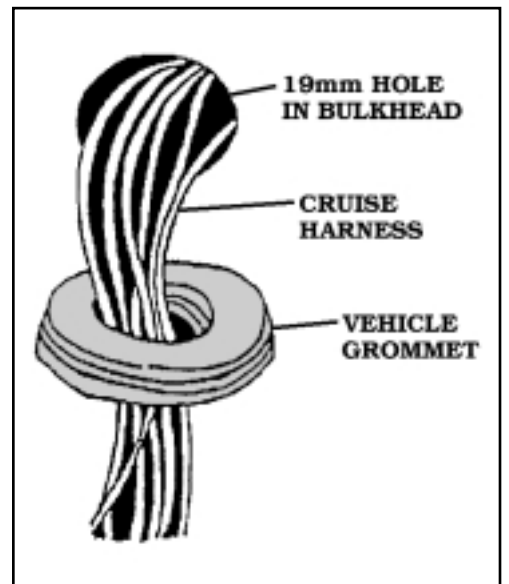

FIGURE 32
- C.** **CRUISE HARNESS** NEEDS A **19MM (.75")** HOLE TO PASS THROUGH BULKHEAD. YOU MAY FIND ONE NEARBY, SUCH AS THE SPEEDOMETER CABLE HOLE OR A SMALL ONE YOU CAN FILE LARGER. IF YOU FIND THE RIGHT SIZE HOLE IN THE RIGHT PLACE, REMOVE VEHICLE GROMMET. IF NOT, DRILL, SAW, OR PUNCH A **19MM** HOLE IN BULKHEAD. A HOLE A FEW MILLIMETERS TO THE LEFT OR SLIGHTLY HIGHER THAN THE STEERING COLUMN IS USUALLY A GOOD PLACE. **FIGURE 32**
SEAL HOLE IN BULKHEAD WITH **SEALING PUTTY** AS SHOWN IN **FIGURE 32**.